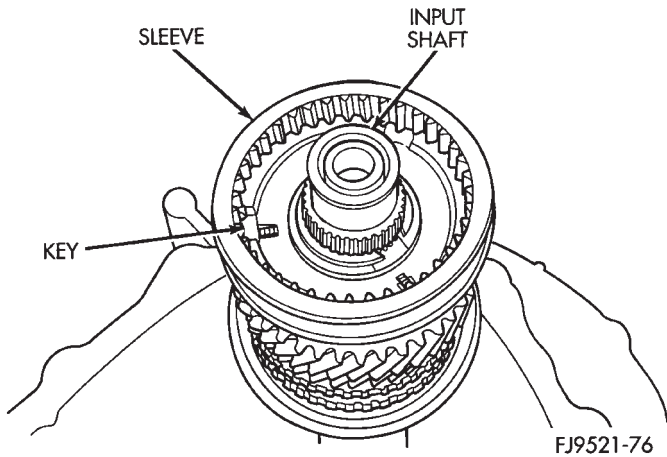

Fig. 128 Synchronizer Sleeve
(5) Slide sleeve over the hub and depress balls as you carefully slip the sleeve into position (Fig. 128).